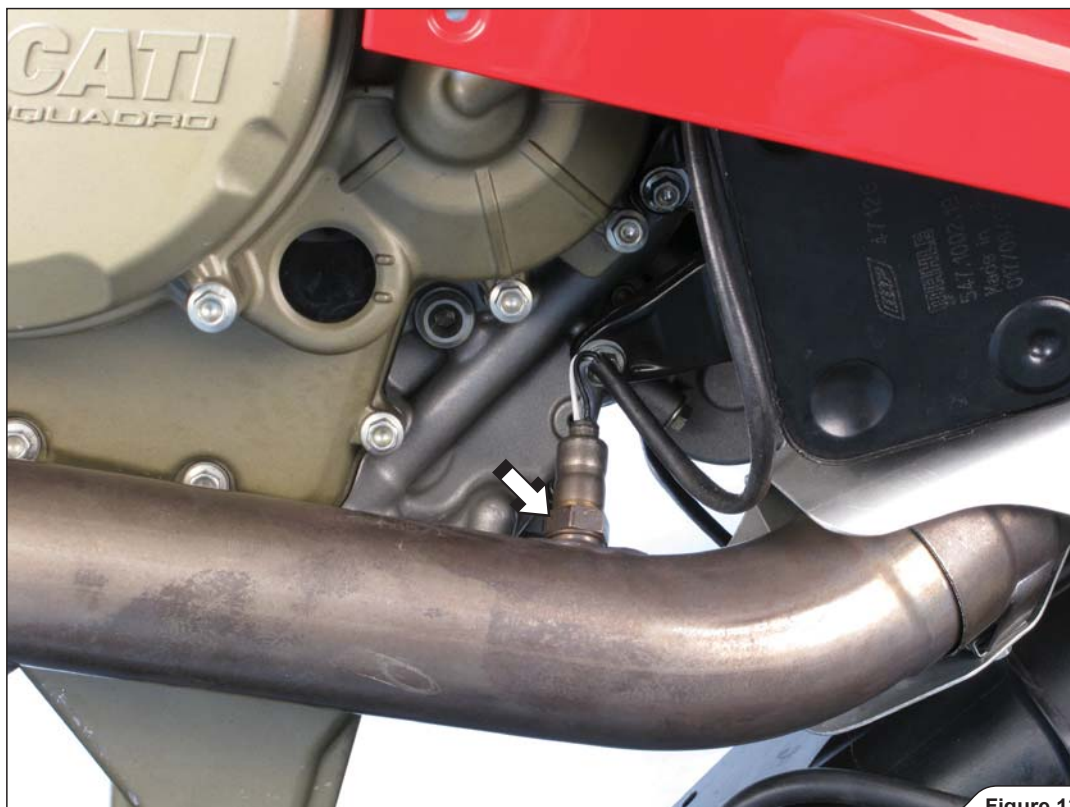

Figure 13
11. Carefully unscrew the front lambda sensor (Figure 13).